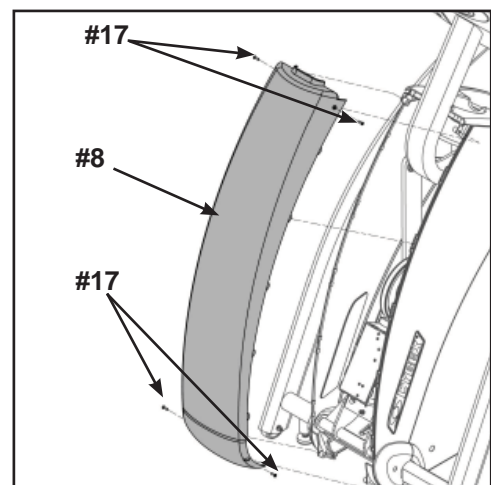

Figure 7
- B. Place the front cover (#8) in the correct position on the main frame assembly and hand thread the four Phillips screws #8 X .625 BLK (#17). See Figure 7.